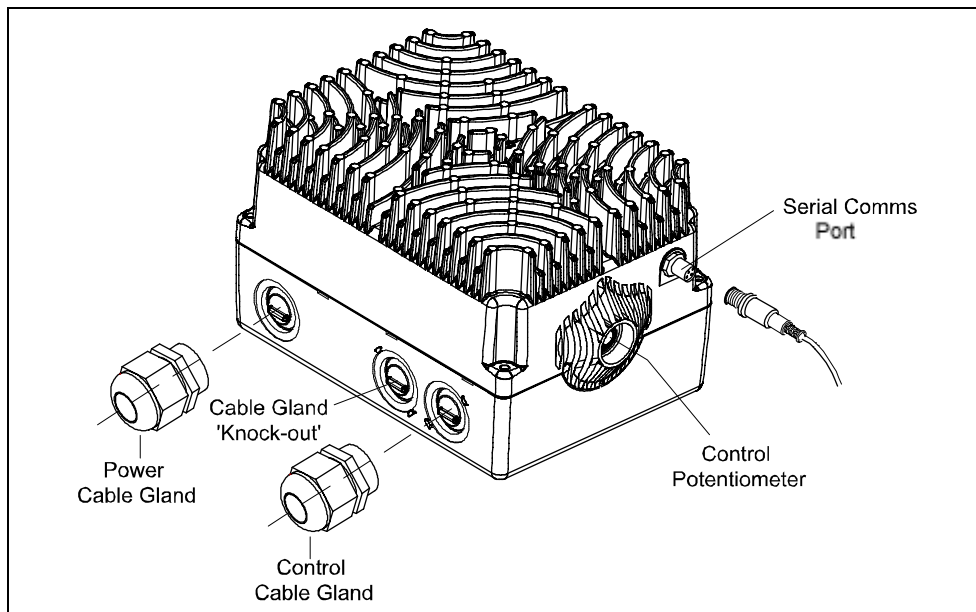
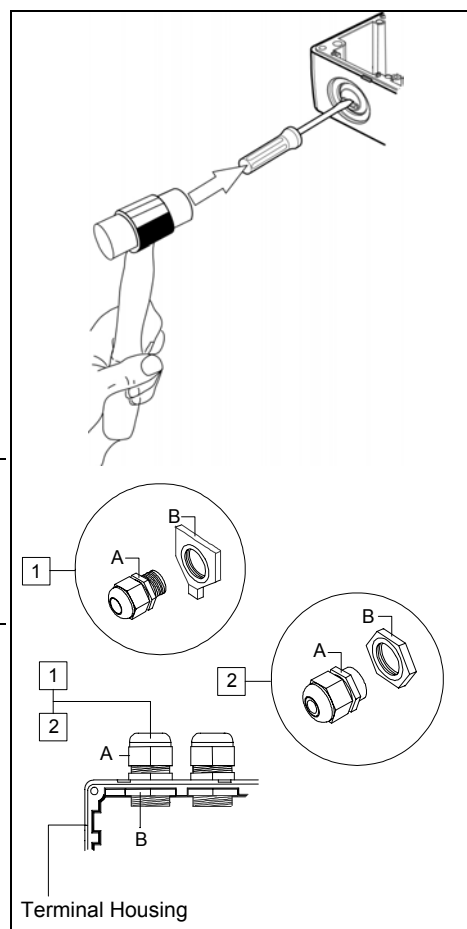

Figure 2-5 Cable Glands
Figure 2-6 Installation of Cable Gland
3. Remove the cable gland blanking plates (knockouts) as required (see Figure 2-6). The preferred gland arrangements are shown in the General Layout Diagram Figure 2-5.
1. Using a hammer and a flat-head screwdriver as shown in Figure 2-6 strike the gland plate or 'knockout' to obtain a clearance for the 25 mm cable gland.
3. After the knockout has been removed it should be safely discarded and the cable glands fitted as shown in Figure 2-6.